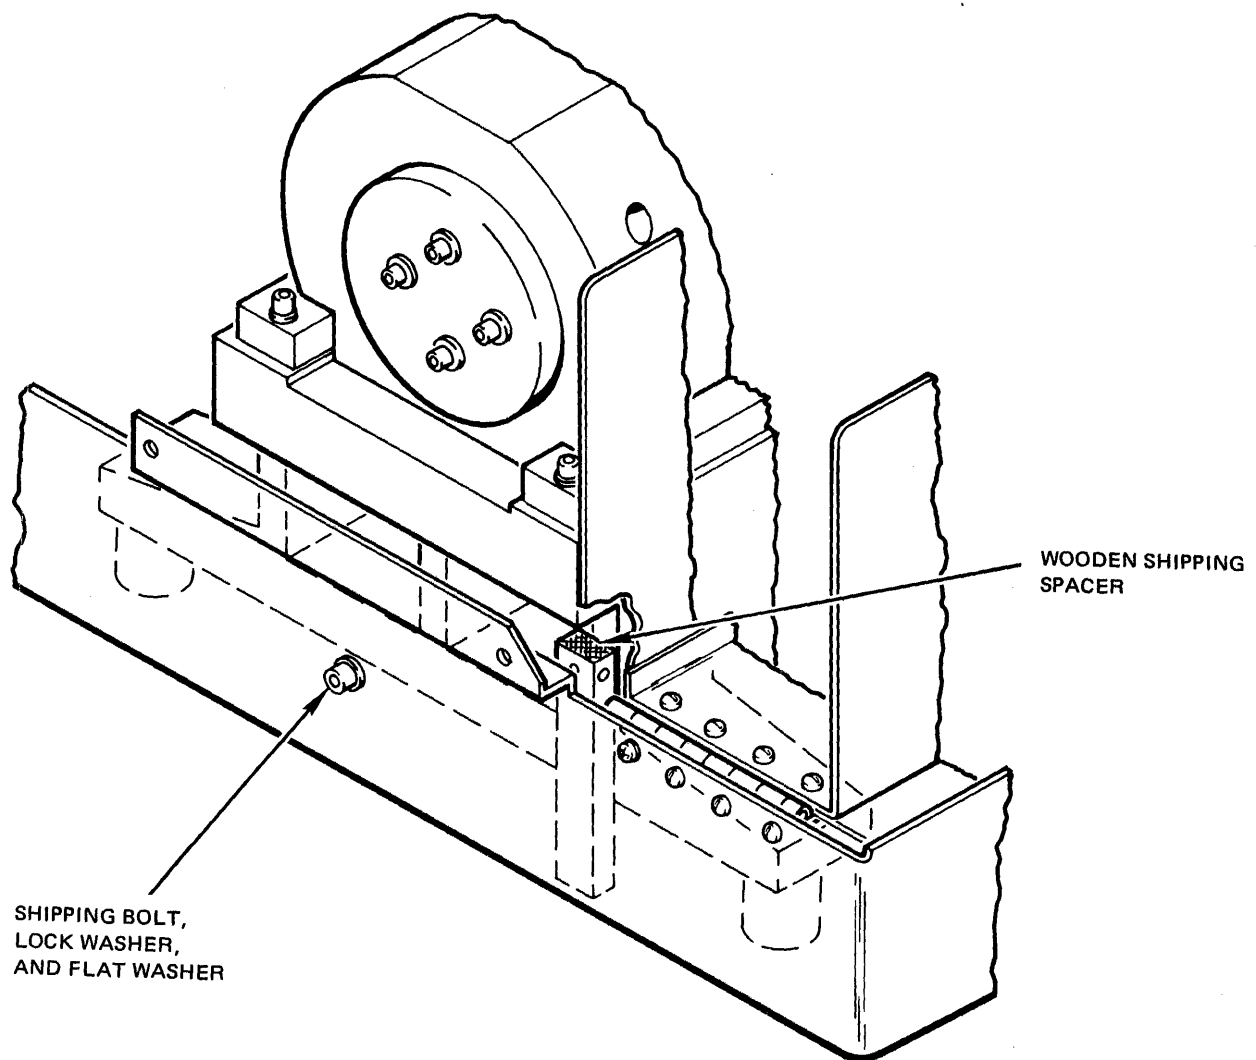

Figure 2-9. Shipping Spacer and Bolt Locations.
6. Place a wooden shipping spacer between the base casting and the bottom frame, as shown in Figure 2-9. The spacer should be positioned flatwise or crosswise to best fill the space between the casting and the frame.